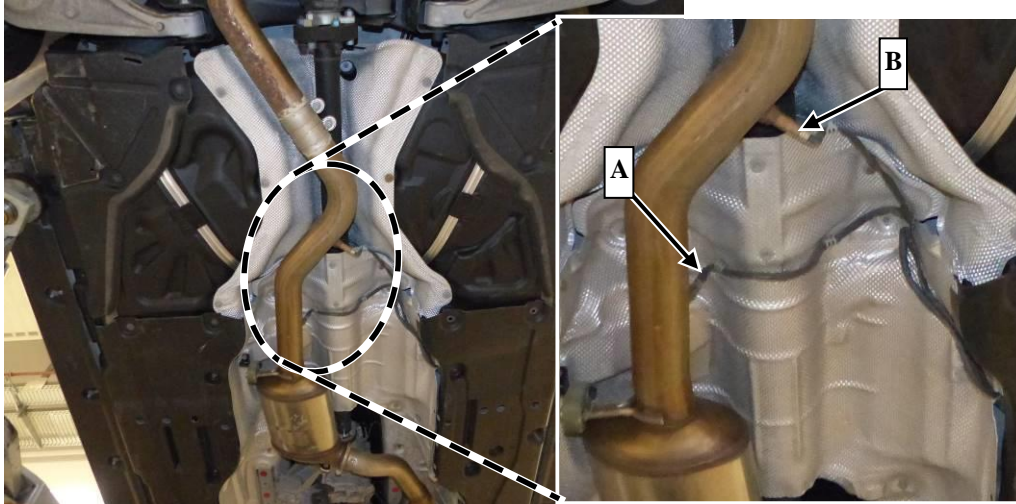

Figure 8
10. Replace NOx sensor A 000 905 58 12 80 (**A, figure 8**) and particulate sensor A 000 905 10 08 (**B, figure 8**), rear, on SCR catalytic converter (**AR14.40-P-2038GQ**).